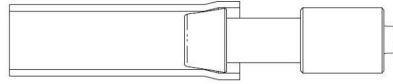

Figure 4-7 The tube connects with Luer-lock
1. Connect the sterilized tube to the sterilized Luer-lock. As shown in Figure 4-7.